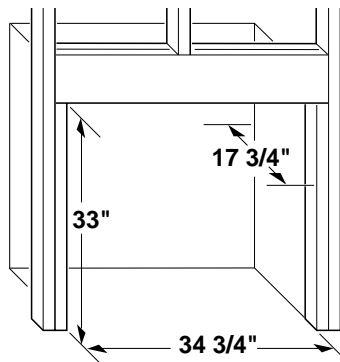
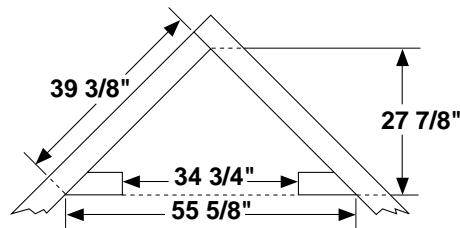

Figure 26 - Rough Opening for Installing in Wall
Figure 27 - Rough Opening for Installing in Corner
1. Frame in rough opening. Use dimensions shown in Figure 26 for the rough opening. If installing in a corner, use dimensions shown in Figure 27 for the rough opening. The height is 33" which is the same as the wall opening in Figure 26.